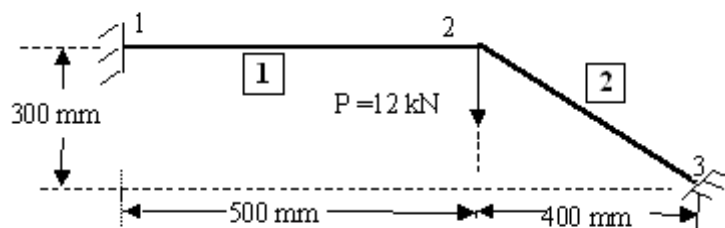

Figure 16:
6. Determine the nodal displacements, element stresses and support reactions in the truss structure shown in figure 16 below, assuming points 1 and 3 to be fixed. Use $E=70 \text{ GPa}$ and $A=200 \text{ mm}^2$. [16]